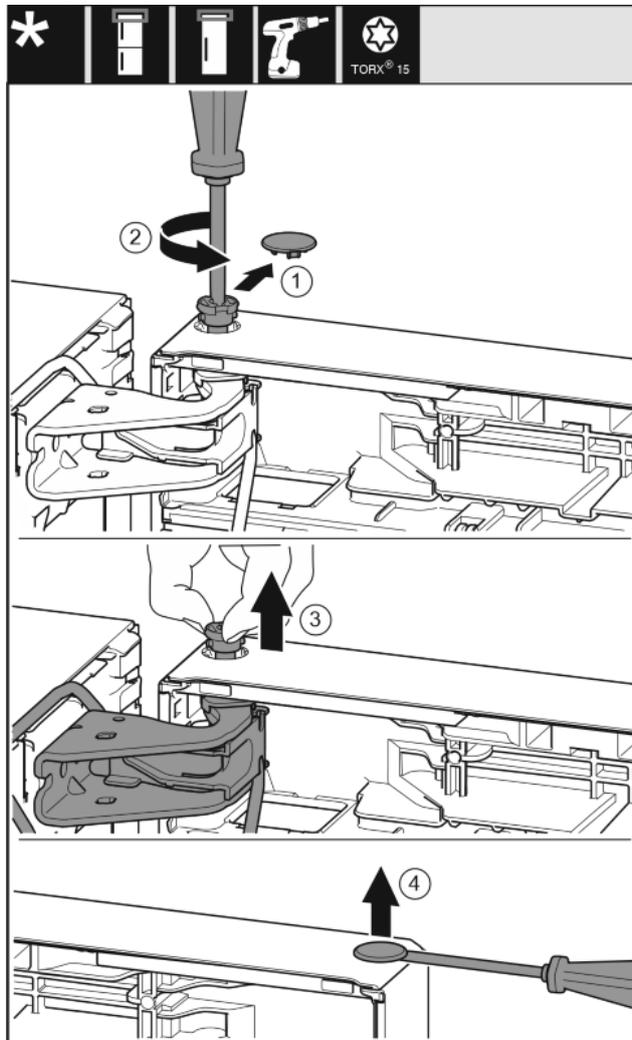

Fig. 18
- ▶ Carefully remove the protective cover. Fig. 18 (1)
- ▶ Undo the bolt a little with a T15 screwdriver. Fig. 18 (2)
- ▶ Hold the door and remove the bolts with your fingers. Fig. 18 (3)
- ▶ Carefully lift the plugs out of the door bearing bush with a slotted screwdriver and pull them out. Fig. 18 (4)